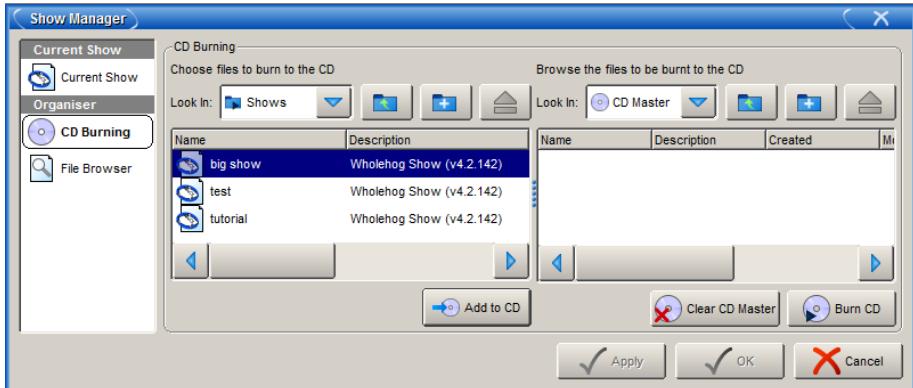

Figure 13.22. The CD Burning pane of the Show Manager window
1. Setup → Shows → CD Burning : see *Figure 13.22, “The CD Burning pane of the Show Manager window”*.